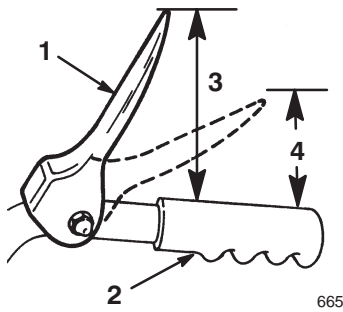

Figure 6
2. Adjust the two flange nuts up or down on the traction rod until the distance between the top of the handgrip and the bottom of the traction control lever is approximately 4-3/8 inches (11 centimeters) as shown in Figure 6.
Note: The adjustment is correct when the wheels stop rolling backward and the distance between the top of the handgrip and the bottom of the traction control lever is one to two inches (2.5 to 5.0 centimeters) as shown in Figure 6.